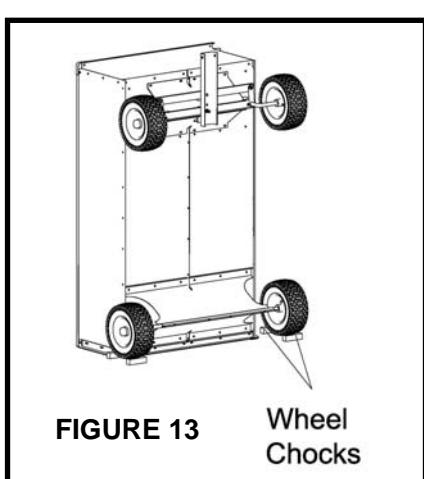

FIGURE 13 **Wheel Chocks**
30. To lower the cart onto its wheels you should: a: Chock the rear wheels as shown in **Figure 13**.b: Get the assistance of another person to help you lower the cart onto its wheels.